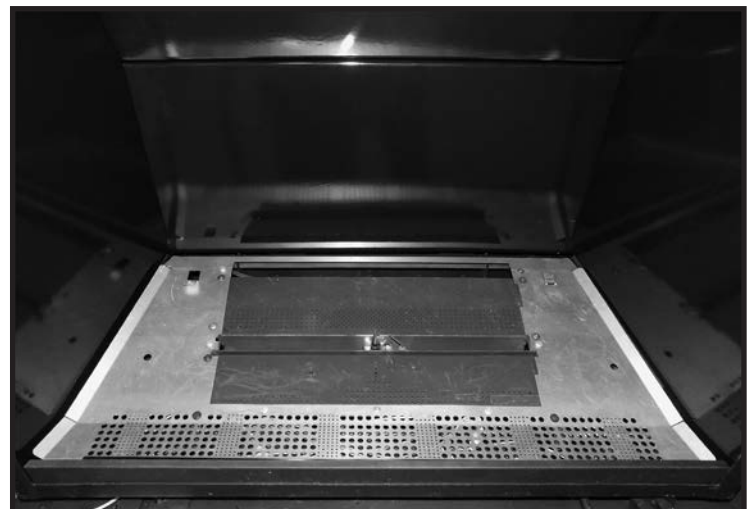

Figure 62: Burner tray and front trim piece in place.
5. Position the burner tray over the front and rear burners and secure to the burners assembly (Figure 62) using supplied screws.
6. Once the Burner tray is secured, place the Front trim piece (Figure 75) between the front edge of the burner tray and the inside front edge of the door frame (Figure 62).